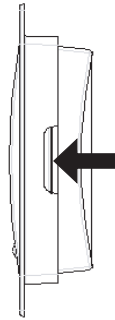

Fig. 4 Detaching display panel from LDU with flush mount.
1. Select the installation location; the wall must be flat and clean. Detach the front display panel from the device by gently pushing outward on the rear openings as shown in Figure 4. Do not reinsert the display panel until wiring is complete.